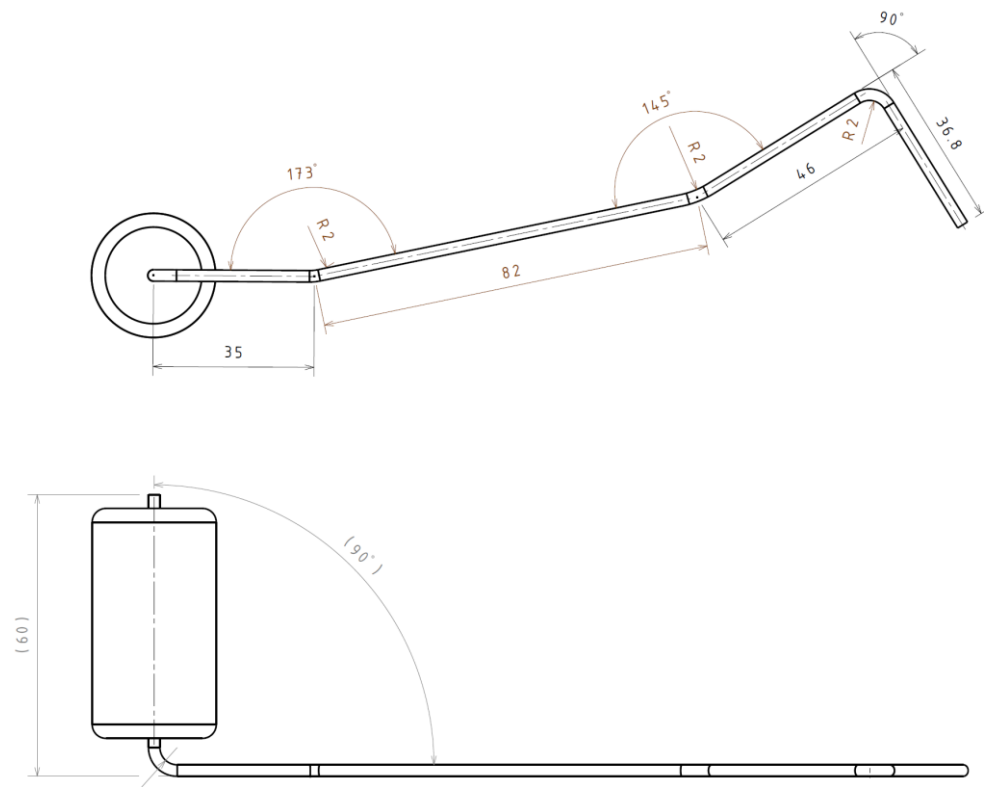

Figure 5 *Float Mechanism*
- ▶ Set position and length of the fuel level sender lever according to Fig. 5.